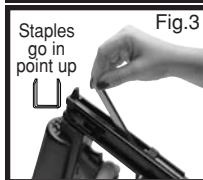

Fig.3
- b. Insert a strip of staples into drop-in staple chamber with staple points facing up as shown in **figure 3**.